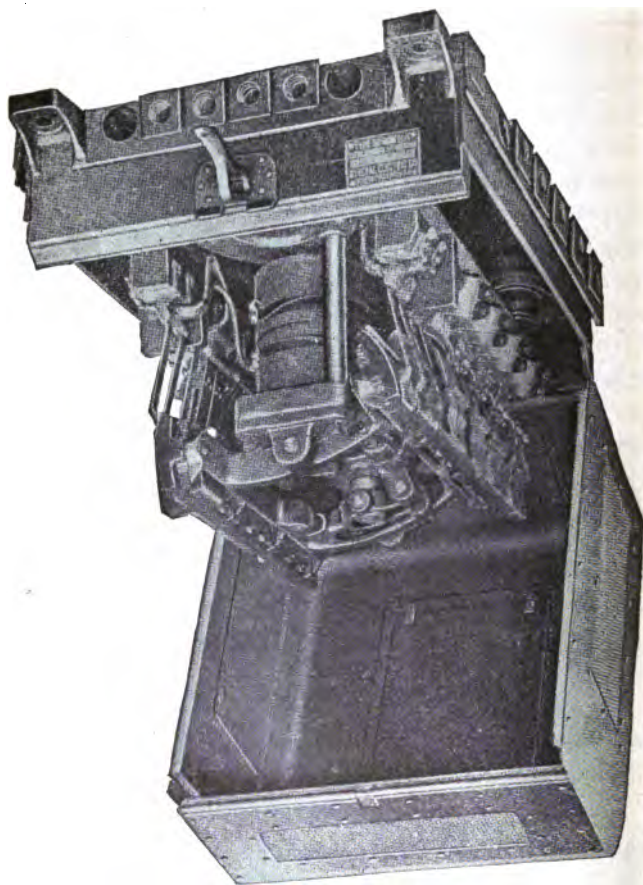

Fig. 482. Reverser.
12. THE REVERSER (Fig. 482) is enclosed in a metal box, and located near the end of the contactor box toward the trailer truck.